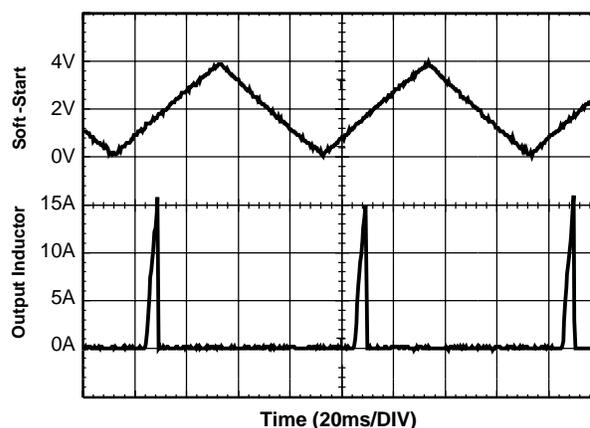

Figure 2. Over-Current Operation
The over-current function protects the converter from a shorted output by using the upper MOSFET’s on-resistance, RDS(ON) to monitor the current. This method enhances the converter’s efficiency and reduces cost by eliminating a current sensing resistor. The over-current function cycles the soft-start function in a hiccup mode to provide fault protection. A resistor (ROCSET) programs the over-current trip level. An internal 200µA current sink develops a voltage across ROCSET that is referenced to VIN. When the voltage across the upper MOSFET (also referenced to VIN) exceeds the voltage across ROCSET, the over-current function initiates a soft-start sequence. The soft-start function discharges CSS with a 10µA current sink and inhibits PWM operation. The soft-start function recharges CSS, and PWM operation resumes with the error amplifier clamped to the SS voltage. Should an over-load occur while recharging CSS, the soft start function inhibits PWM operation while fully charging CSS to 4V to complete its cycle. Figure 2 shows this operation with an overload condition. Note that the inductor current increases to over 15A during the CSS charging interval and causes an over-current trip. The converter dissipates very little power with this method. The measured input power for the conditions of Figure 2 is 2.5W.